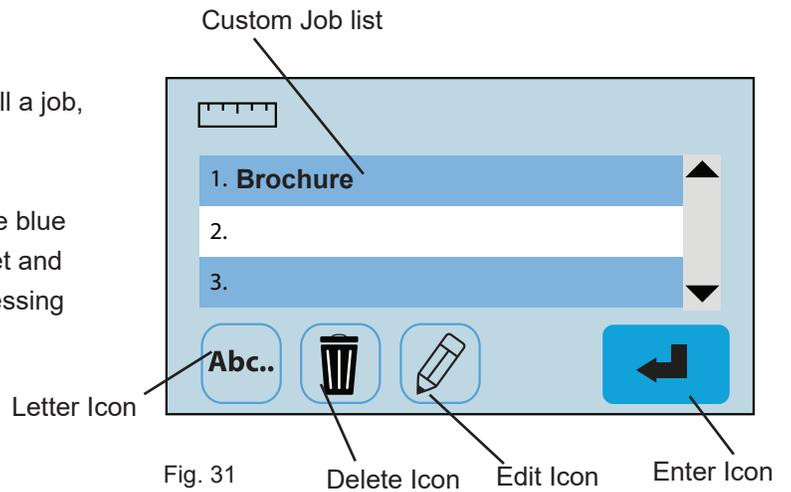
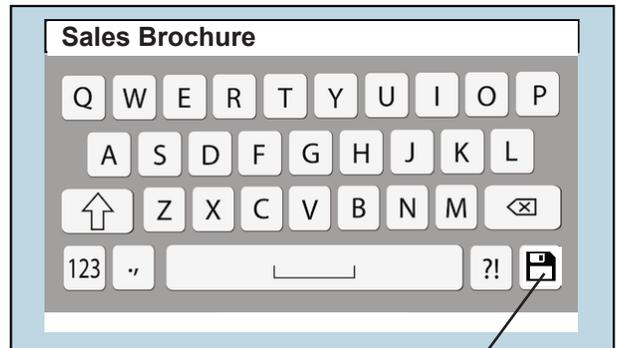
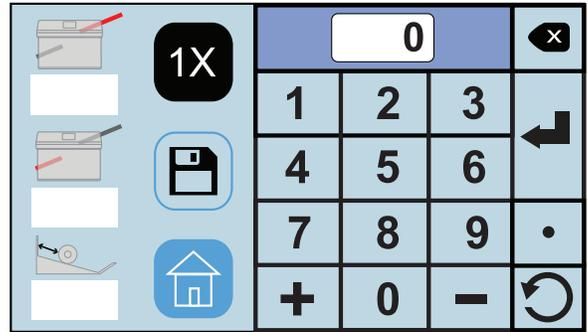

Fig. 31
Fig. 32
Fig. 34
To recall select the job from the list and press the blue enter button  (Fig. 31). The fold will be set and then will return to the home screen to start processing the job.
3. To rename a job, select the job from the list and press the letter icon  (Fig. 31). Use the keypad to change the name and press the save icon in the lower right corner (Fig. 32).
4. To delete a job, select the job from the list and press the delete icon  (Fig. 31). On the confirmation screen press the green box with the check to confirm the deletion or press the red box with the X to cancel the deletion (Fig. 33).
- To edit a previously saved job, select the job from the list and press the edit icon  (Fig. 31). From the fold setup screen use the same process as setting a custom fold to edit the job settings (Fig. 34). See page 13 for measuring guidelines.